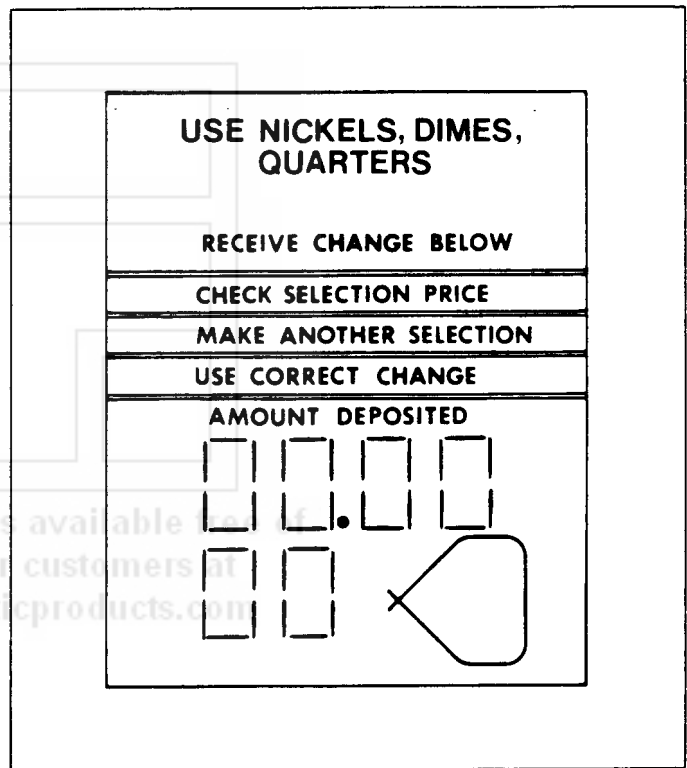

Figure 14.
- B. Press button 11 on the selection panel and the display will show "00.00" (Figure 14). This is the price display and can be incremented up by pressing button 11 and down by pressing button 12. Increments are 5¢. **CAUTION:** Any selection programmed at "00.00" will free vend.